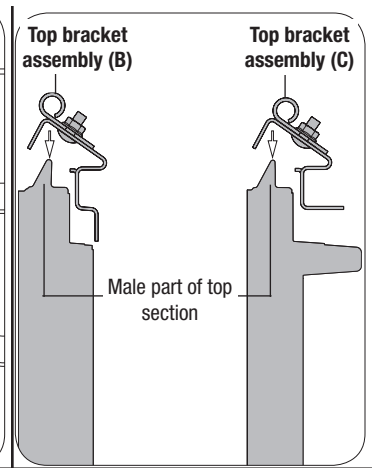
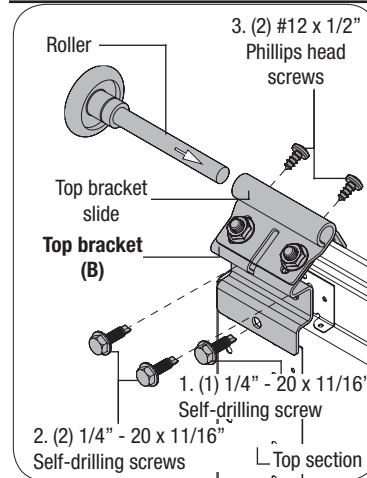
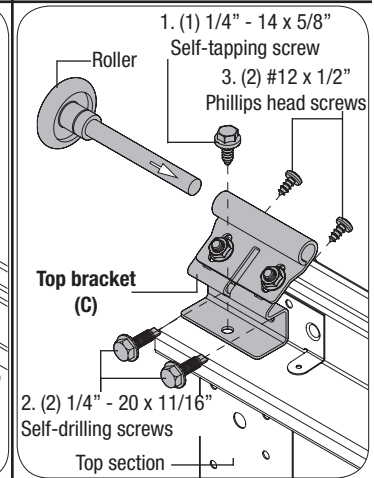

FIG. 4.2
FIG. 4.3
FIG. 4.4
**NOTE:** The LHR top bracket comes pre-assembled, as shown in **FIG. 4.3** or **FIG. 4.4**. Locate the edge of the top section and seat the top bracket on male part of the top section, as shown in **FIG. 4.2**.
Insert a roller into the top bracket slide, as shown in **FIG. 4.3**. Repeat the same process for the other side.
Insert a roller into the top bracket slide, as shown in **FIG. 4.4**. Repeat the same process for the other side.